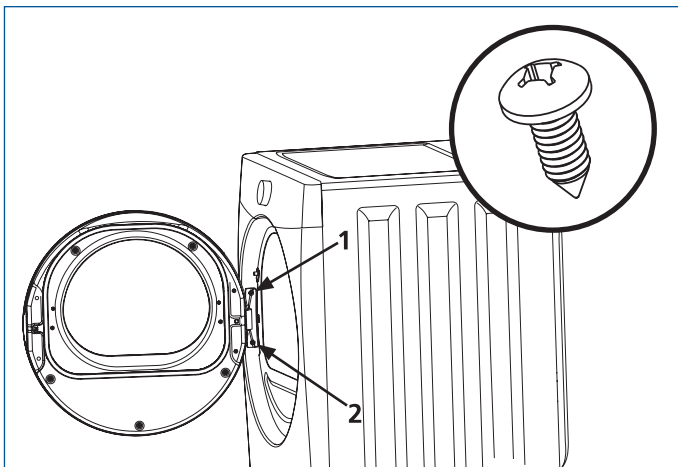

Figure 2-31.
2. Rest the opening of the inner door at a 90 degree angle on the "shoulders" of the hinge cutout gate. Pivot the inner door down onto the outer door. (See Figure 2-31)